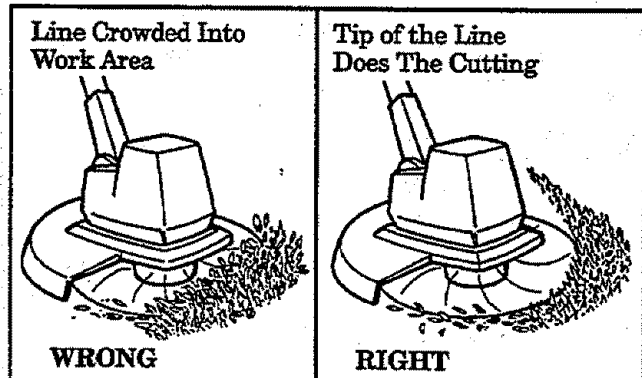

Figure 9
- The tip of the line does the cutting. You will achieve the best performance and minimum line wear by not crowding the line into the cutting area. The right and wrong ways are shown in Figure 9.